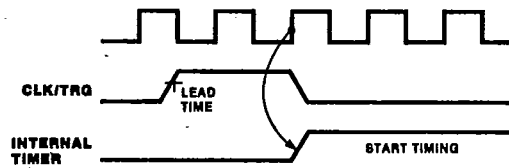

Figure 3. Timer Mode Timing
**Timer Operation.** In the timer mode, a CLK/TRG pulse input starts the timer (Figure 3) on the second succeeding rising edge of CLK. The trigger pulse is asynchronous, and it must have a minimum width. A minimum lead time (210 ns) is required between the active edge of the CLK/TRG and the next rising edge of CLK to enable the prescaler on the following clock edge. If the CLK/TRG edge occurs closer than this, the initiation of the timer function is delayed one clock cycle. This corresponds to the start-up timing discussed in the programming section. The timer can also be started automatically if so programmed by the channel control word.